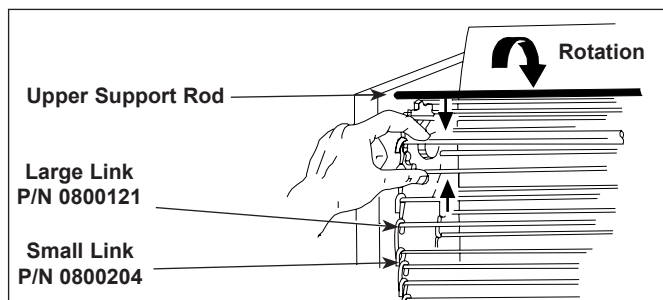

Figure 13. Removing Conveyor Belt Chain
9. Disconnect the Conveyor Belt Chain by squeezing any two links together and unhooking both ends one link (Figure 13). Needle-nose pliers may be used.
5. Disconnect the Conveyor Belt Chain by squeezing any two links together and unhooking both ends of one link (Figure 13).
NOTICE: The ends of the hooks must point down (Figure 13).